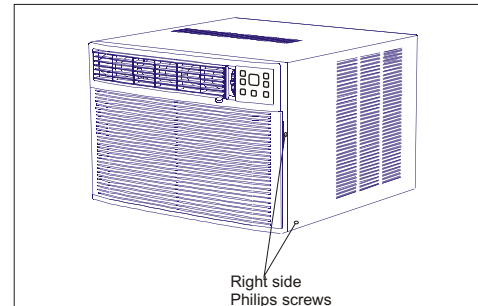

Fig. 1
A. Place unit on floor, remove total of (4) Philips screws securing the chassis to the cabinet. There are (2) screws on each side. The set of screws closest to the front of the unit secure the front panel to the cabinet. The set of screws closest to the rear of the unit secure the cabinet to the chassis. See (Fig. 1).